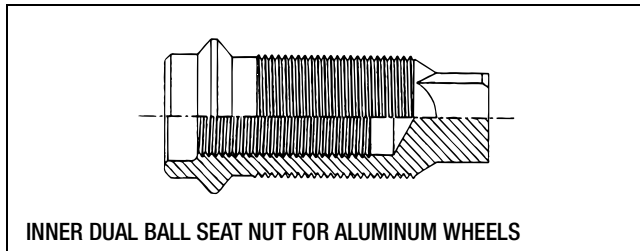

Figure 3.10
- A dual stud-piloted assembly uses the same studs for aluminum and steel disc wheels. Use Alcoa 5988R and 5988L cap nuts designed specifically for aluminum disc wheels. Figure 3.10.